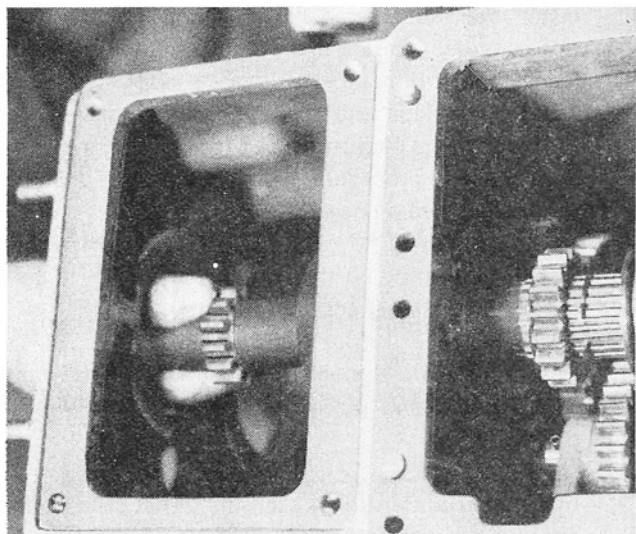

Figure 6
25. Drive the main shaft forward and out of the case using a brass hammer, Figure 6.